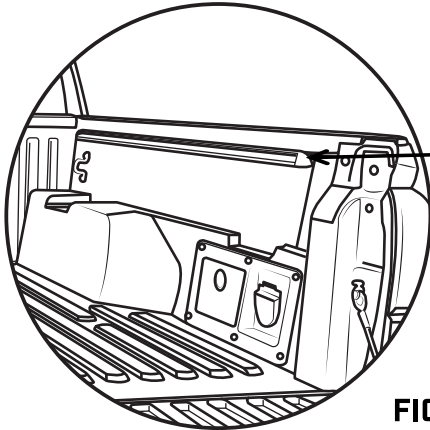

FIGURE 4
2. ONCE THE RSI SMARTCAP IS CENTERED, SLIDE CLAMPS INTO THE BIN MOUNTING RAILS PLEASE NOTE THERE ARE 3 CLAMPS PER SIDE (SEE FIGURE 4)